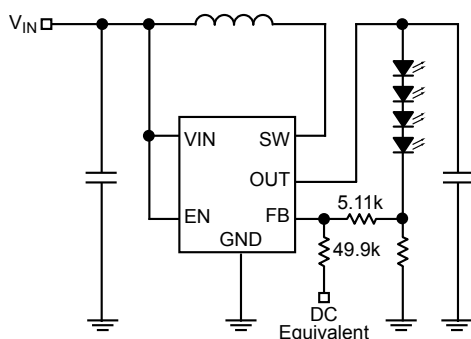

Figure 2. Continuous Dimming
2. Continuous dimming control is implemented by applying a DC control voltage to the FB pin of the MIC2292/93 through a series resistor as shown in Figure 2. The LED current is decreased proportionally with the amplitude of the control voltage. The LED intensity (current) can be dynamically varied applying a DC voltage to the FB pin. The DC voltage can come from a DAC signal or a filtered PWM signal. The advantage of this approach is that a high frequency PWM signal (>10kHz) can be used to control LED intensity.